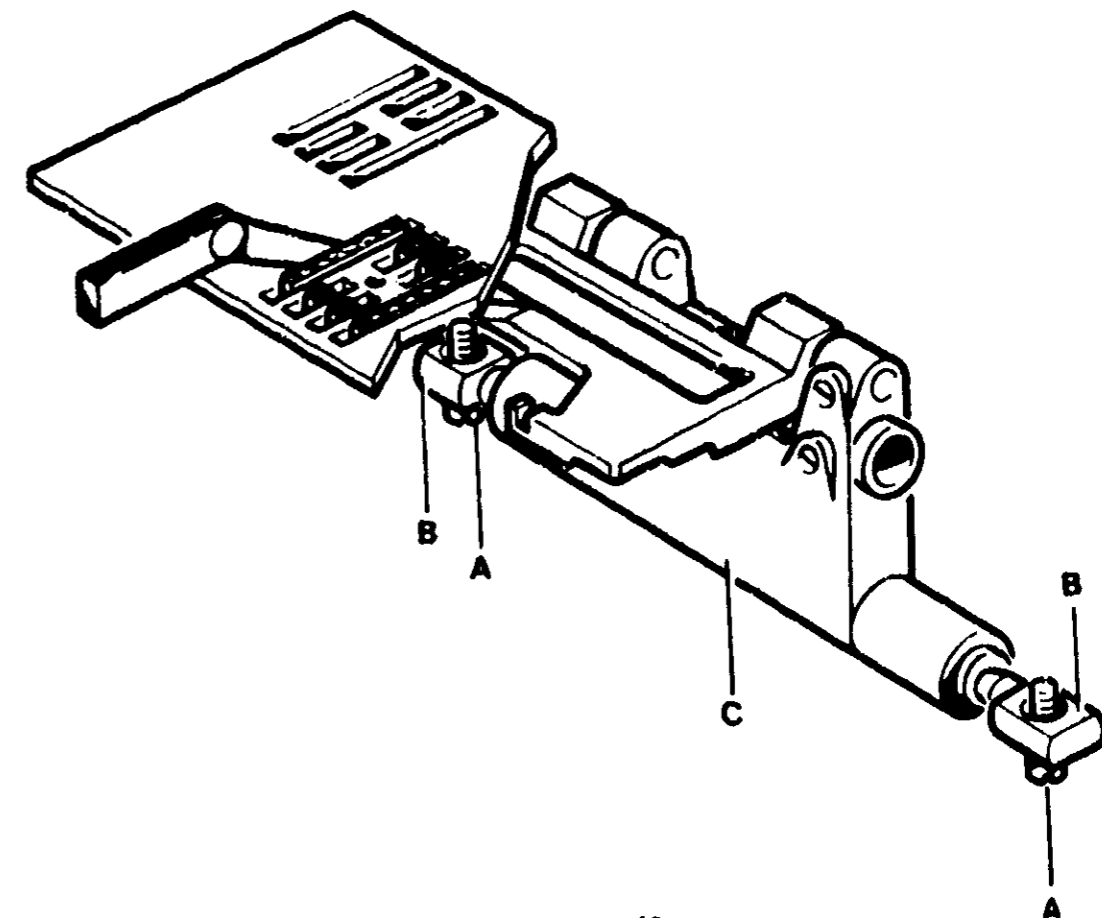

FIGURE 45
- Check to see that the .002 inch (.05 mm) blade of the feeler gauge can be inserted between each side of feed dogs and the facing needle plate edge (Figure 45).